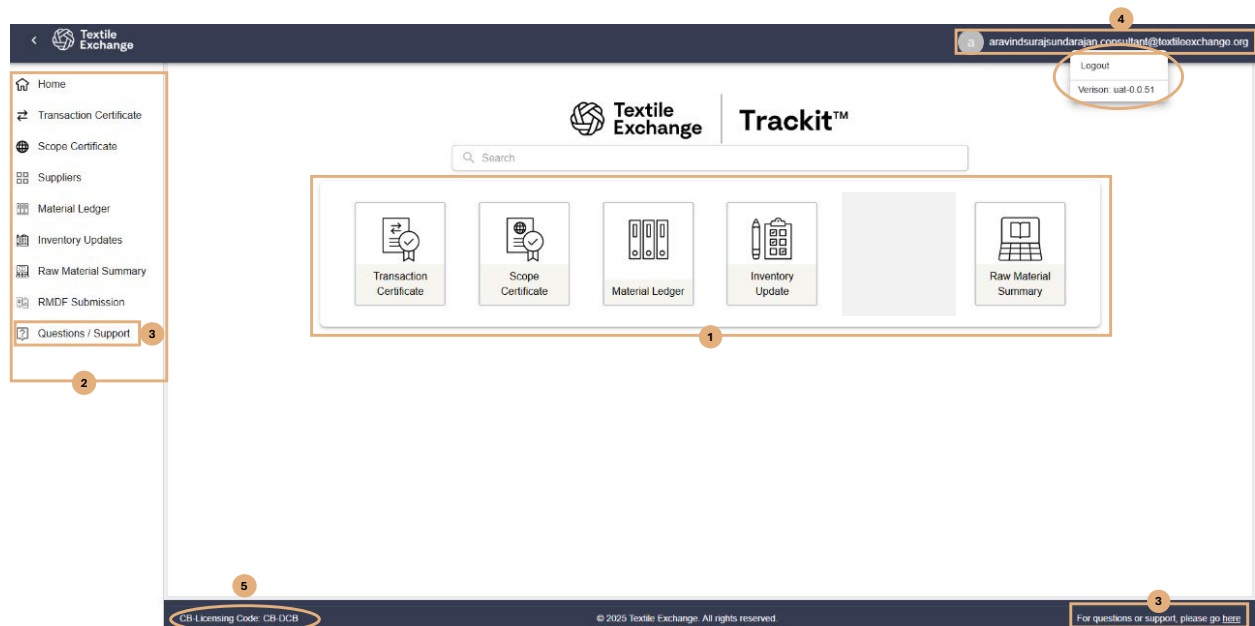

Figure 3: Landing page for Trackit portal.
5. Upon successful login, you will be redirected to the material ledger Trackit portal, as shown in Figure 3.
7. On the Trackit portal landing page, you will see a side navigation menu on the left-hand side of the screen [2]. This menu allows users to easily access various modules and features of the portal, as shown in Figure 3.